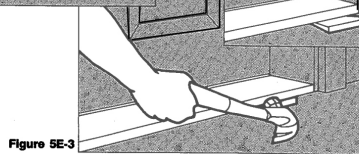

Figure 5E-3
5. If the door is not level, use wood shims between floor and threshold (Figures 5E-1, 5E-2 and 5E-3).